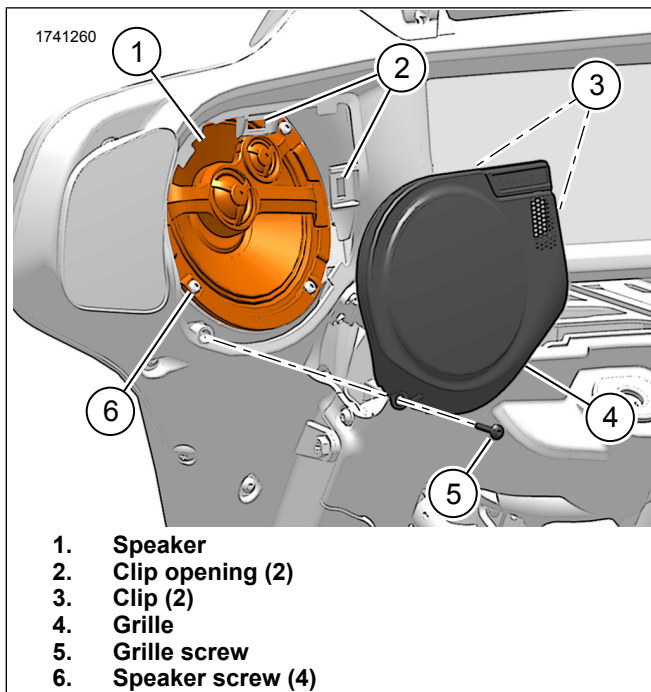
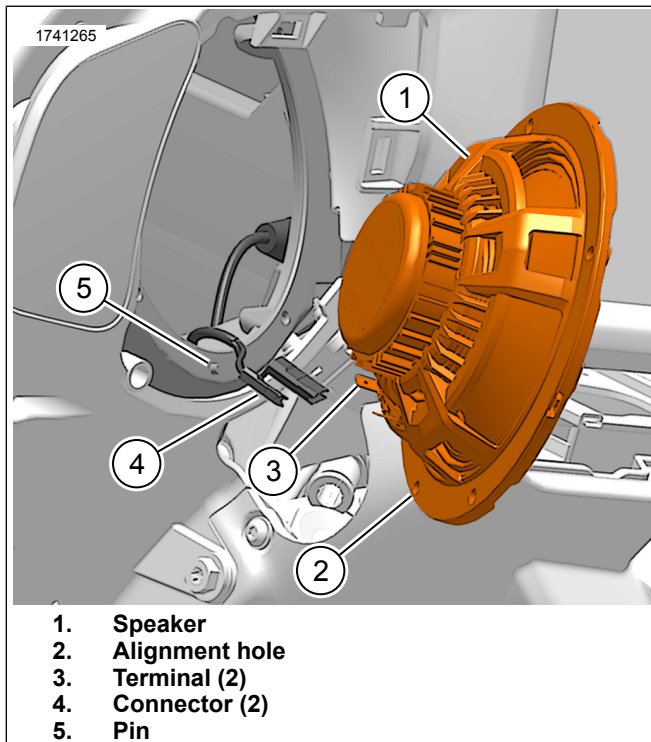

Figure 3. Speaker and Grille (Stage 2 shown, OE similar)
Figure 4. Fairing Speaker Connection
1. Figure 3 Remove Original Equipment (OE) speaker grille.
- a. Remove screw (5) and grille (4).
- b. Using a non-marring tool, pry clips (3) from clip openings (2).
2. Remove speaker screws (6).
3. Figure 4 Remove OE speaker.
- a. Remove speaker (1) from fairing far enough to gain access to connectors (4).
- b. Disconnect connectors (4) from speaker terminals (3).
2. Figure 4 Install Stage I or II speaker.
- a. Connect connectors (4) to speaker terminals (3).
- b. Install speaker (1) into enclosure.
### 3. Figure 3 Install speaker screws.
- b. Figure 3 Install grille aligning grille clips (3) into clip openings (2).
- c. Install screw (5). Tighten.